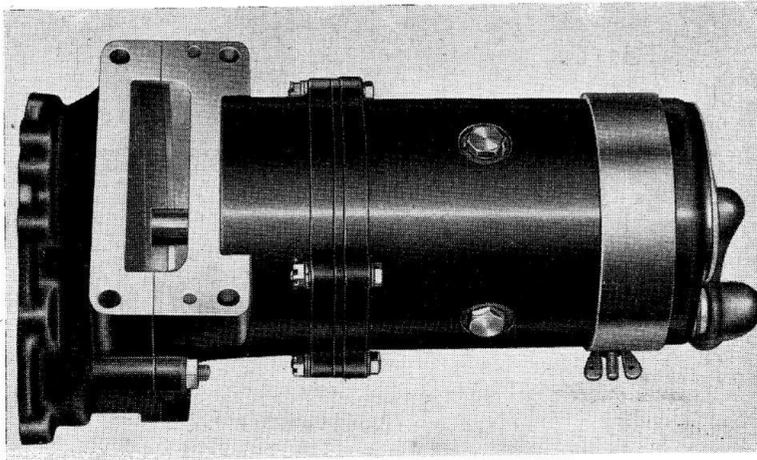

Fig. 1. Starter motor, Type C10501
2. The motor (*fig. 1 and 2*) is a totally enclosed 4 pole machine. The armature is wave wound with the field coils con-